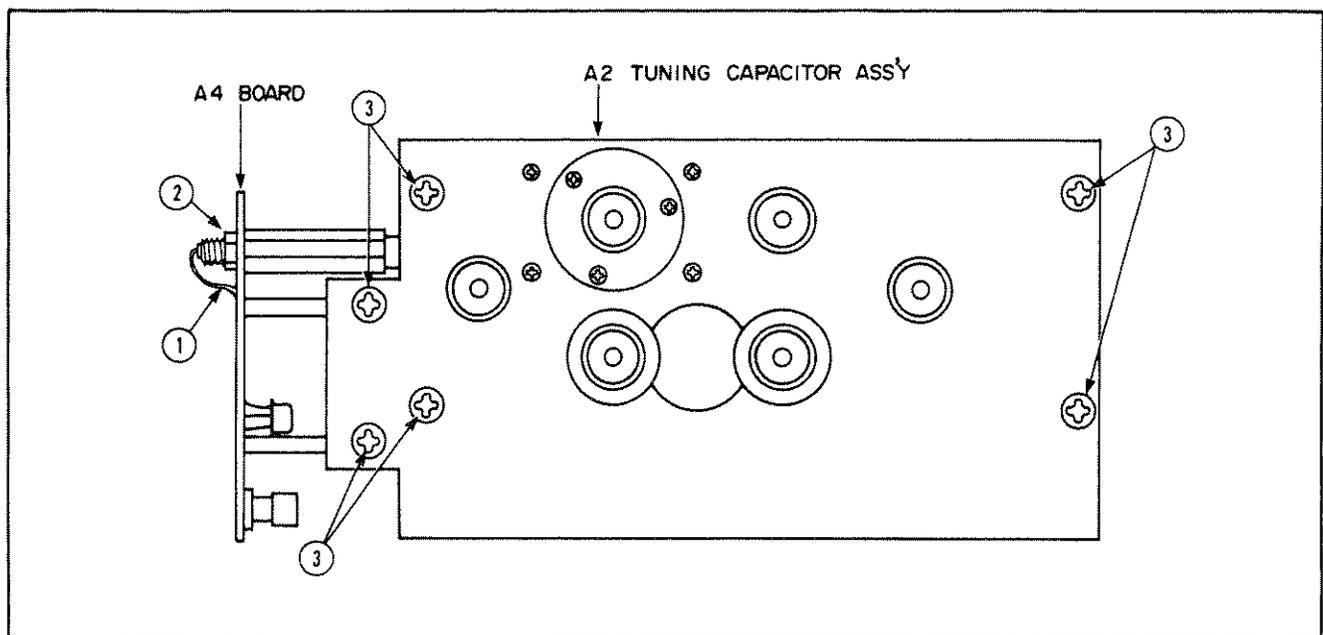

Figure 5-11. Tuning Capacitor Disassembly (top view).
- c. Unsolder center conductor (1) of coaxial module connected to A4 Impedance Converter (see Figure 5-11).
- d. Remove nut (2) retaining the coaxial assembly module.
- e. Remove the six terminal deck retaining screws (3).